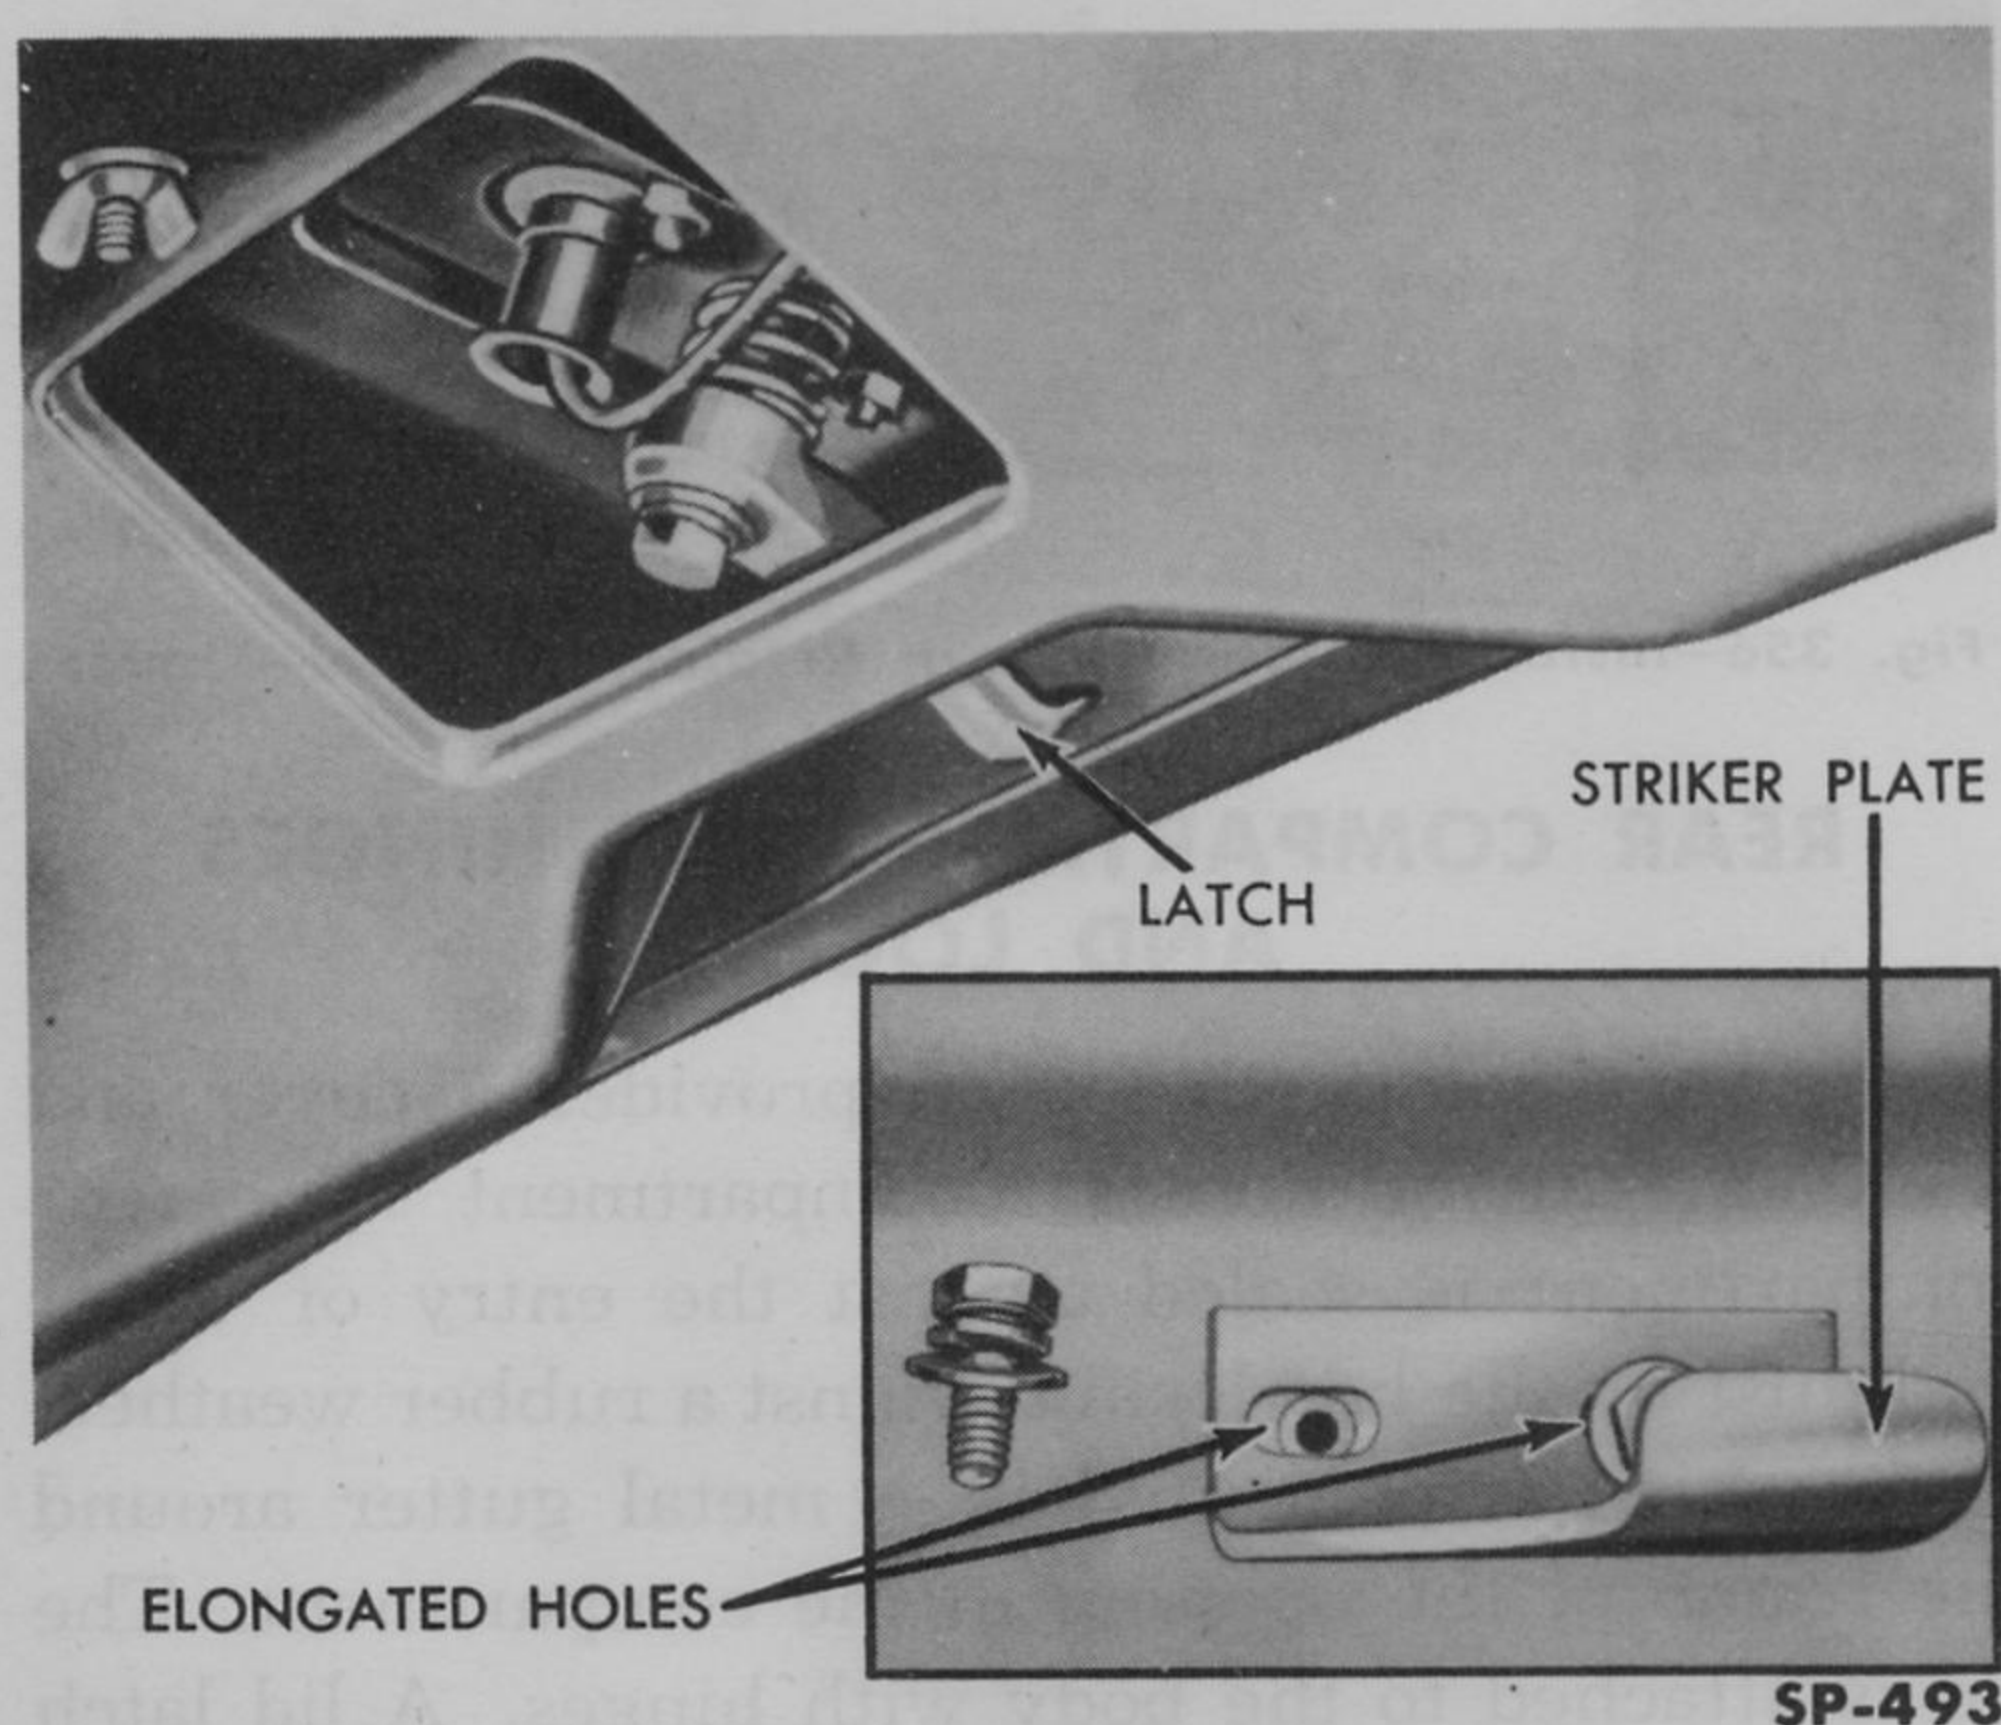

Fig. 358—Rear Compartment Lid Lock and Striker—Frazer
**2. Rear Compartment Lid Lock.** Frazer models have a swivel type lid lock, as typically illustrated in Fig. 358. The latch and spring are easily replaced by removing the bolt, lock washer and flat washer that mount the latch on the end of the lock handle. The lock handle and the license lamp are mounted on the rear deck lid and can be easily replaced by removing the attaching parts and disconnecting the wiring. The lock cylinder must be turned to the unlocked position with the key before the lock handle can be removed.
(e) The striker plate mounting holes are elongated (Fig. 358) to permit sidewise adjustment to properly position the plate in relation to the latch on the lock handle with the handle in the locked position. Fore and aft adjustment of the striker plate in relation to the locking handle latch may be accomplished by carefully bending the striker plate as required.